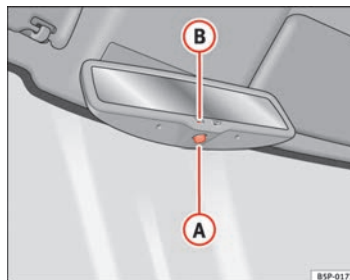

Fig. 87 Automatic anti-dazzle interior rear vision mirror.
- Press button **A** ⇒ Fig. 87. Control lamp **B** goes off.
- Press button **A** ⇒ Fig. 87. Control lamp is lit. ■